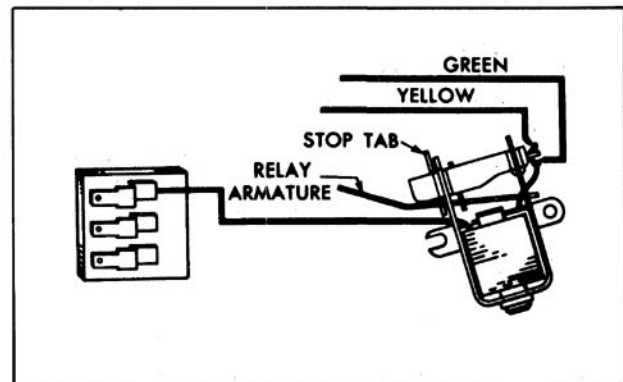

Fig. 13-148 Checking Relay
a. If test lamp does not light, check for open or dirty circuit breaker contacts, poor solder connection at circuit breaker and/or broken green or brown wire. (Fig. 13-148)